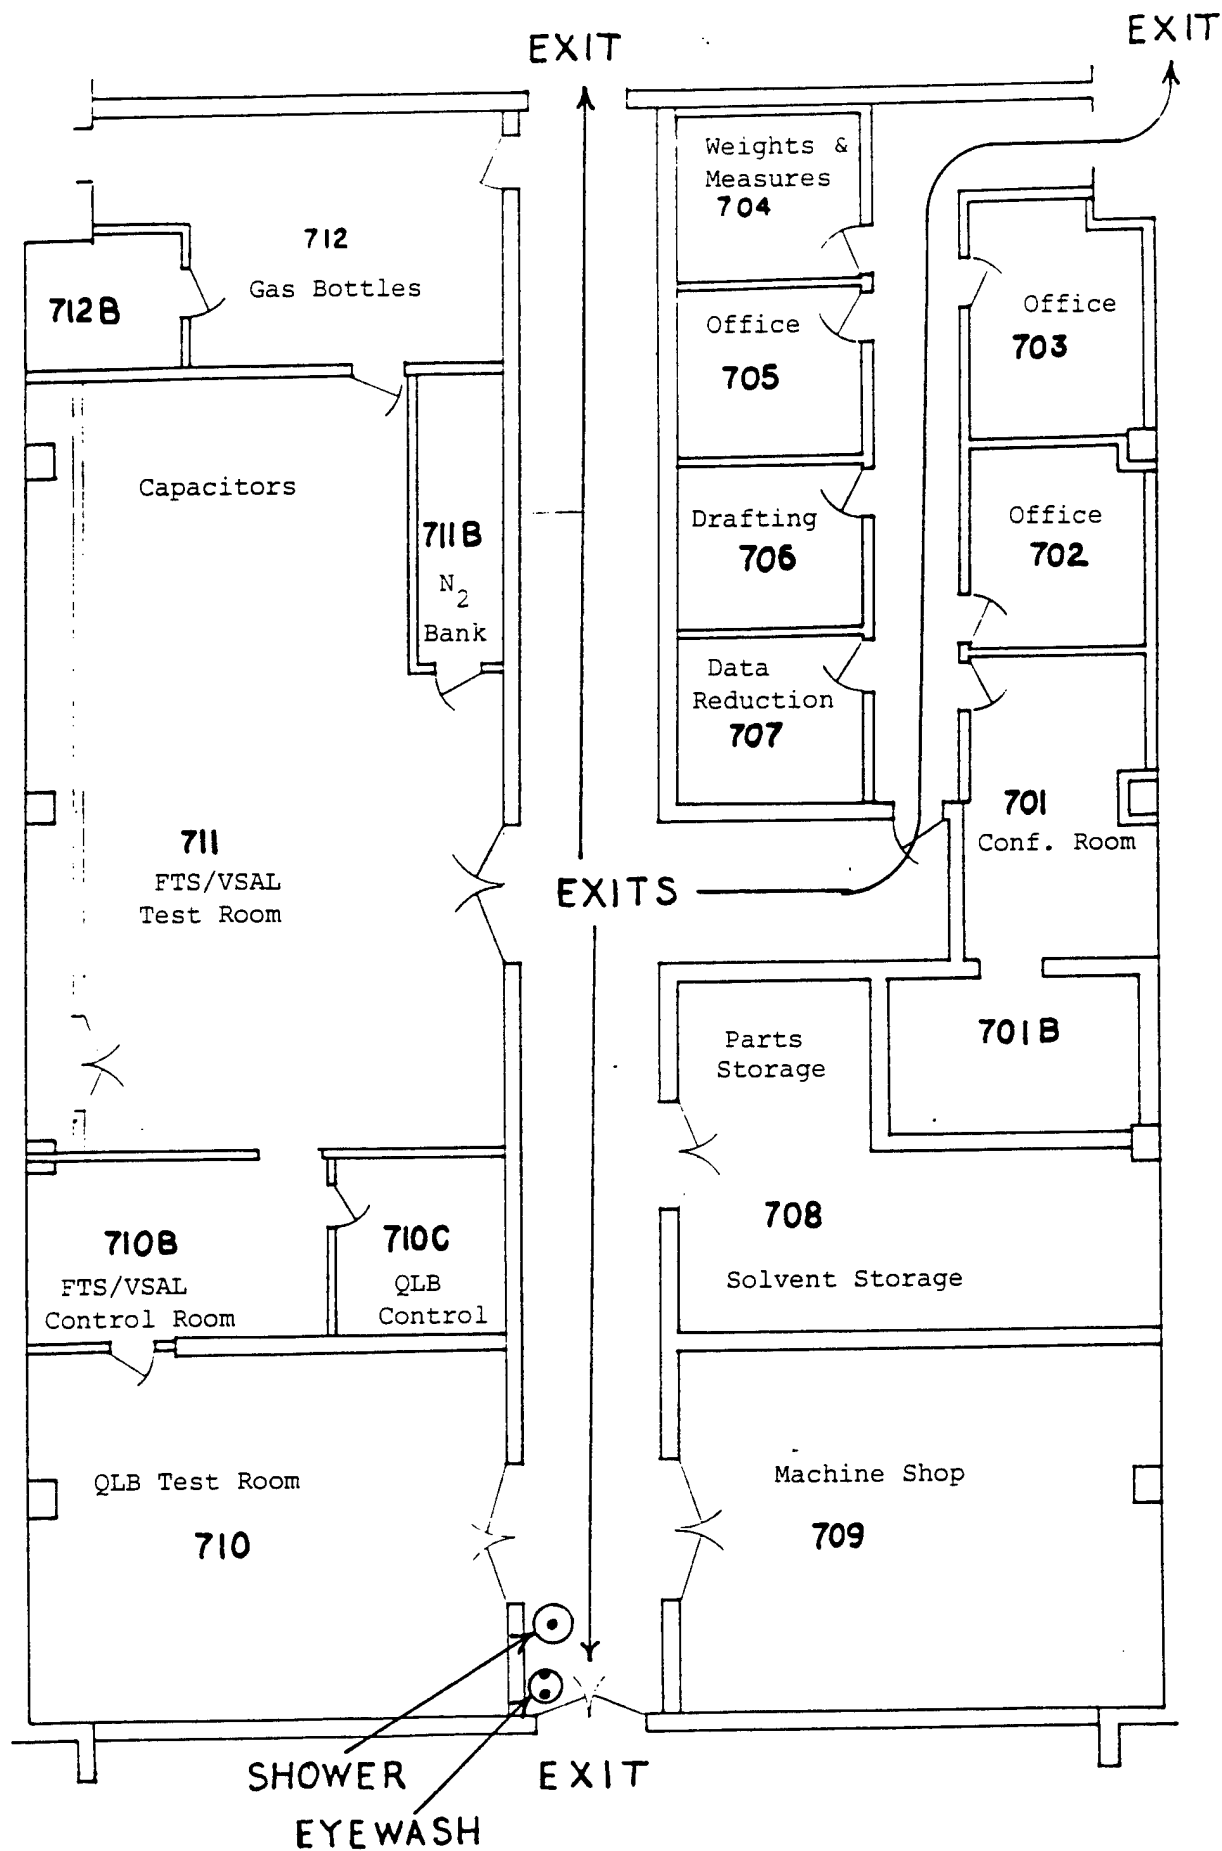

Figure 1. Building 56, Bay 7 Floor Plan.
3. No personnel will occupy Test Areas (Room 710 Quartz Lamp Testing or Room 711 Flashlamp Thermal Simulator/Vortek Arclamp Testing) during tests. Personnel observing tests must be located in Control Rooms 710B or 710C. All other rooms in Building 56, Bay 7 are approved for occupancy during testing (see Figure 1).
5. Emergency Full-Body shower and eye wash are located at the West end of the main hallway (see Figure 1).
6. In the event of building power loss at a time when the capacitor banks contain a charge, all personnel except the operator will vacate the area. Available exits are shown in Figure 1. The operator will remain in the main hallway to prevent access to the capacitor bank area until the bank can be discharged.